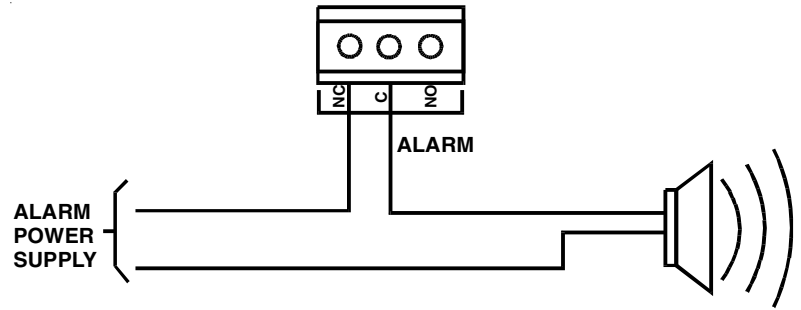

Figure 6: Alarm Connection
- For alarm hook-up, refer to Figure 6.
There are two types of alarms in the industry : one type is activated when its input current is cut off whereas the other type is activated when it receives current at its input. For an alarm of the first type, use the NO terminal. For an alarm of the second type, use the NC terminal as shown in Figure 6.